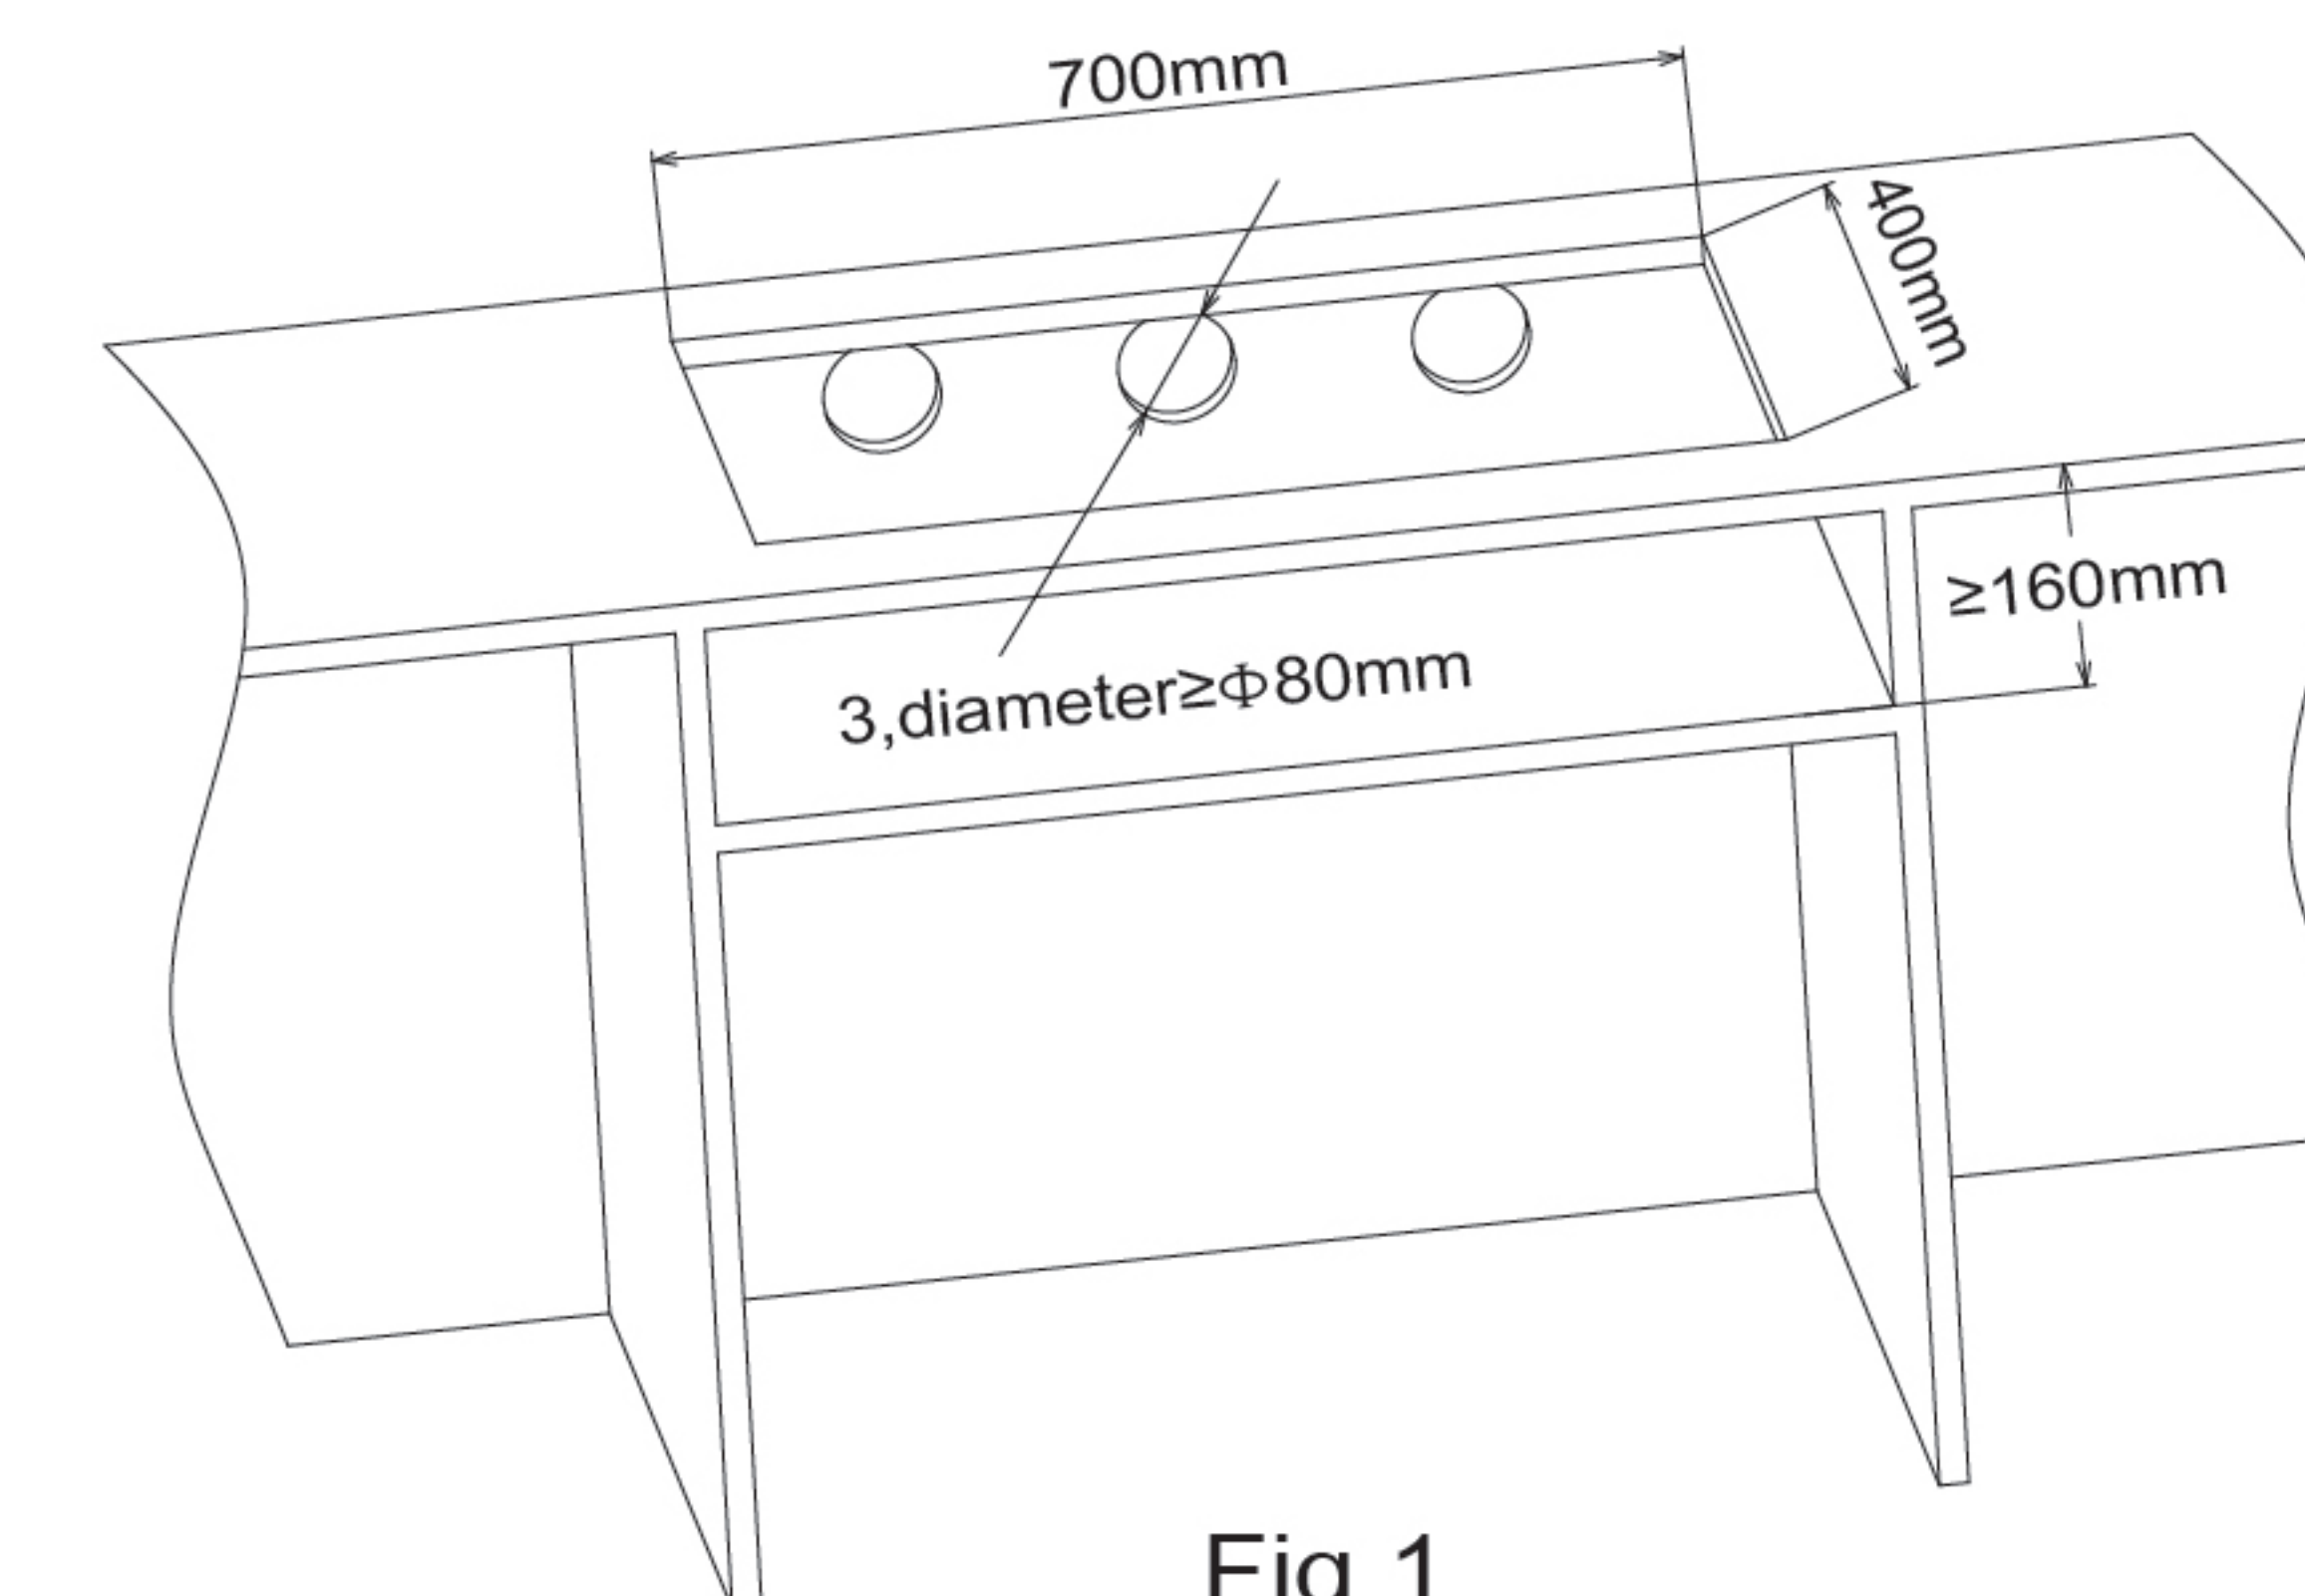

Fig 1
2. The distance between the countertop and the partition should be no less than 160mm if no electrical appliance such as disinfection cabinets is installed below. A vent at least 150cm² (equivalent to 3 circular holes with a diameter of 80mm) should be opened at the back of the cupboard for ventilation and heat dissipation of the induction hob (Fig 1).